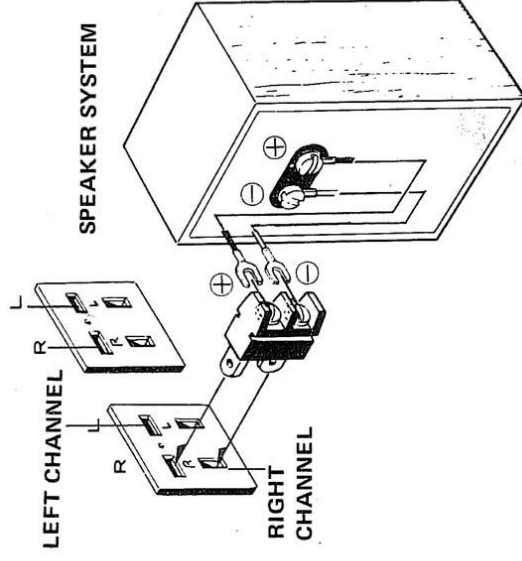

Fig. 3
- As shown in Fig. 3, connect the lead wires of the speaker system to the supplied speaker plugs. Be sure to observe the correct polarity and no short between ⊕ and ⊖.